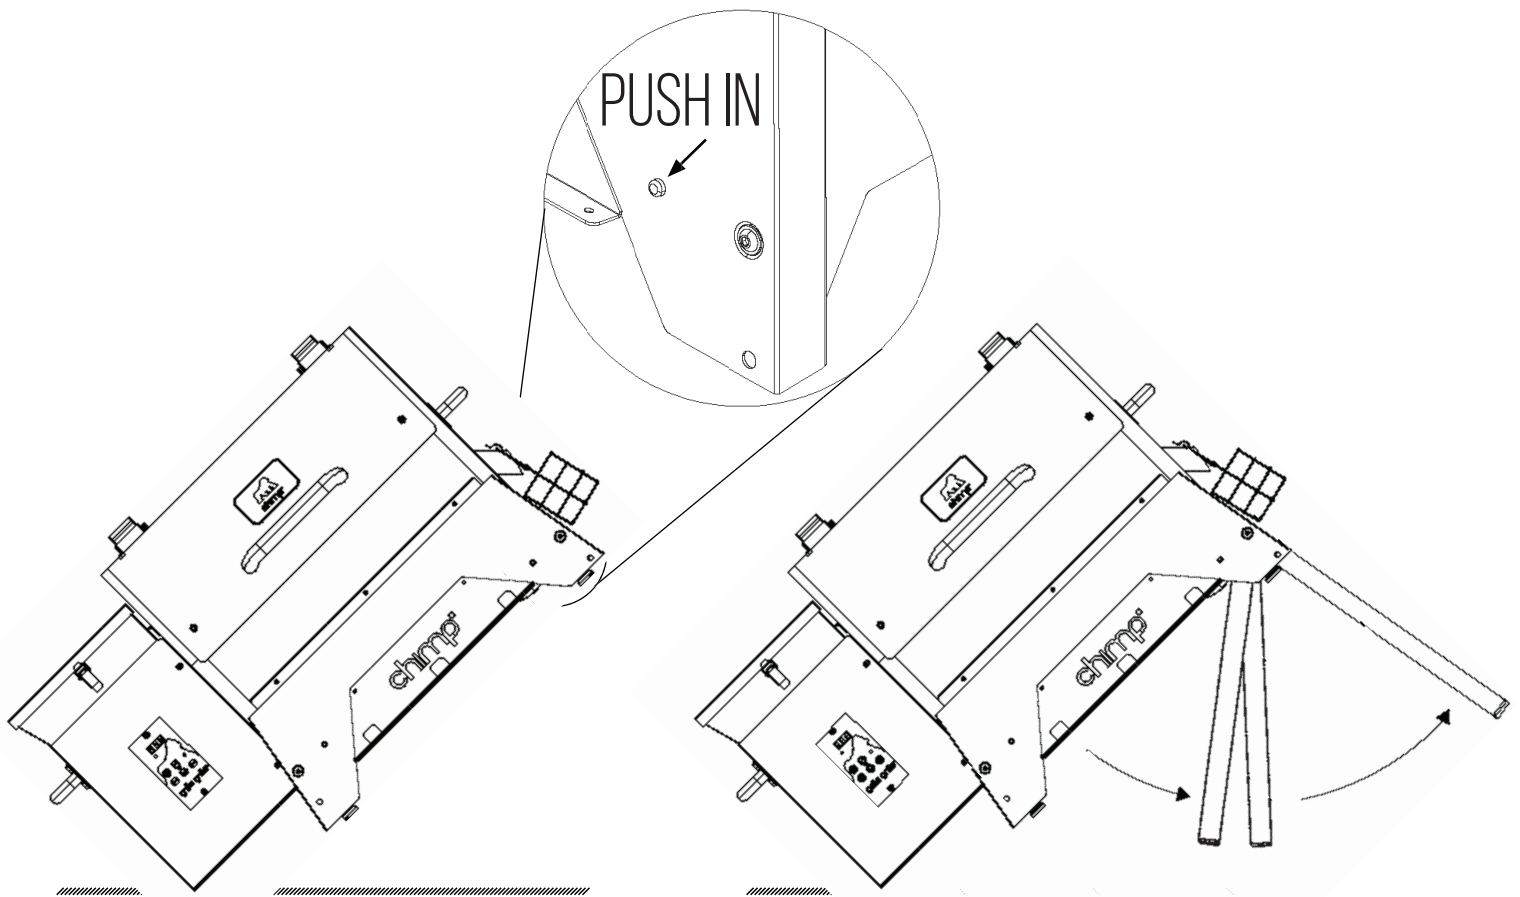
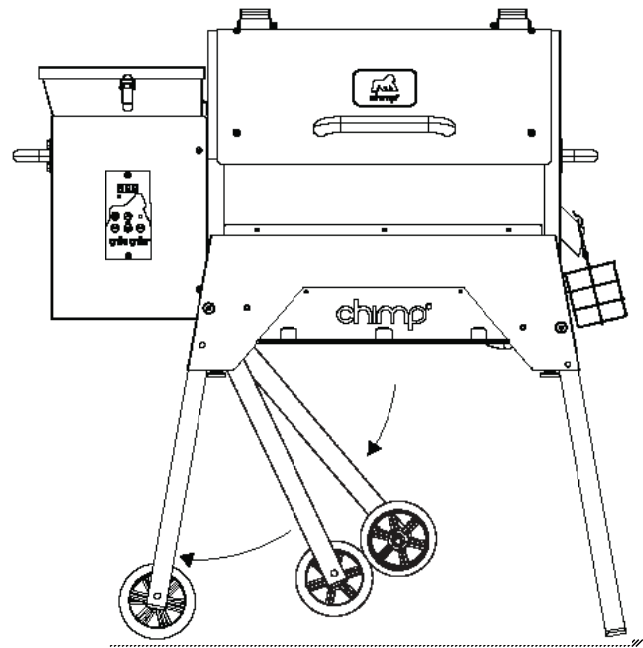

FIG 1
FIG 2
STEP 1 - Use the 4 shorter 1/4" philips head screws circled in FIG 1 to mount the hopper handle, Seen in FIG 2.
STEP 1 - Tilt grill up on the hopper edge illustrated in (FIG 1). Push in the metal detent on each side of the grill to release the two non-wheel legs (FIG 2). Make sure the detent clicks back into the downward position holes.
STEP 2 - Now lift hopper side using the handle on the hopper (FIG 1). Again push the metal detents on both sides of your grill to release the wheel legs, click them into place (FIG 2).